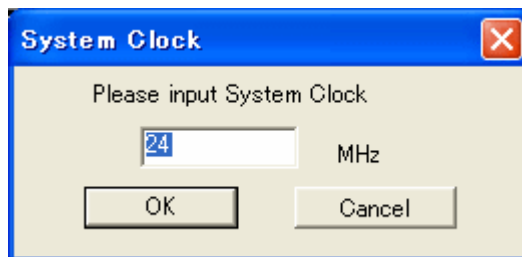

Figure 3.41 [System Clock] Dialog Box
11. When using the H8S family microcomputer, the dialog box shown in figure 3.41 is displayed. Input the system clock value.